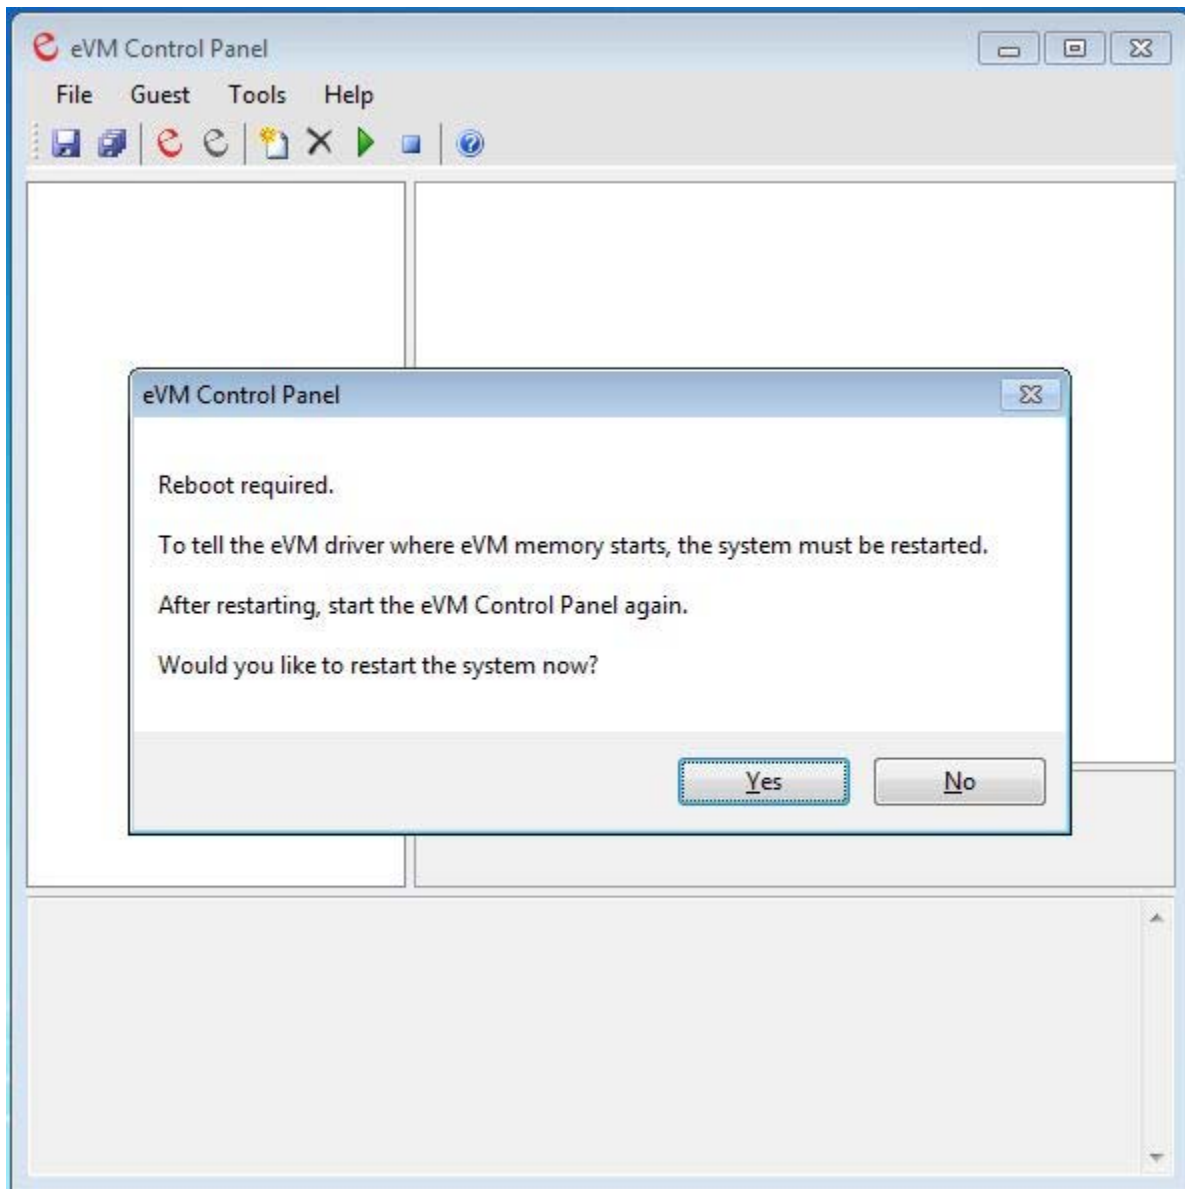

Figure 4.14 - eVM Control Panel Restart Prompt
13. After you click **Finish** in the dialog shown in Figure 4.12, the Wizard will prompt you that you now need to restart your system, see Figure 4.14. A restart is required, so eVM can take the memory that it needs for eVM and the guest OS from Windows. In general, resizing Windows available memory requires a restart of the Windows OS. Click **Yes**, and wait for the system to reboot.